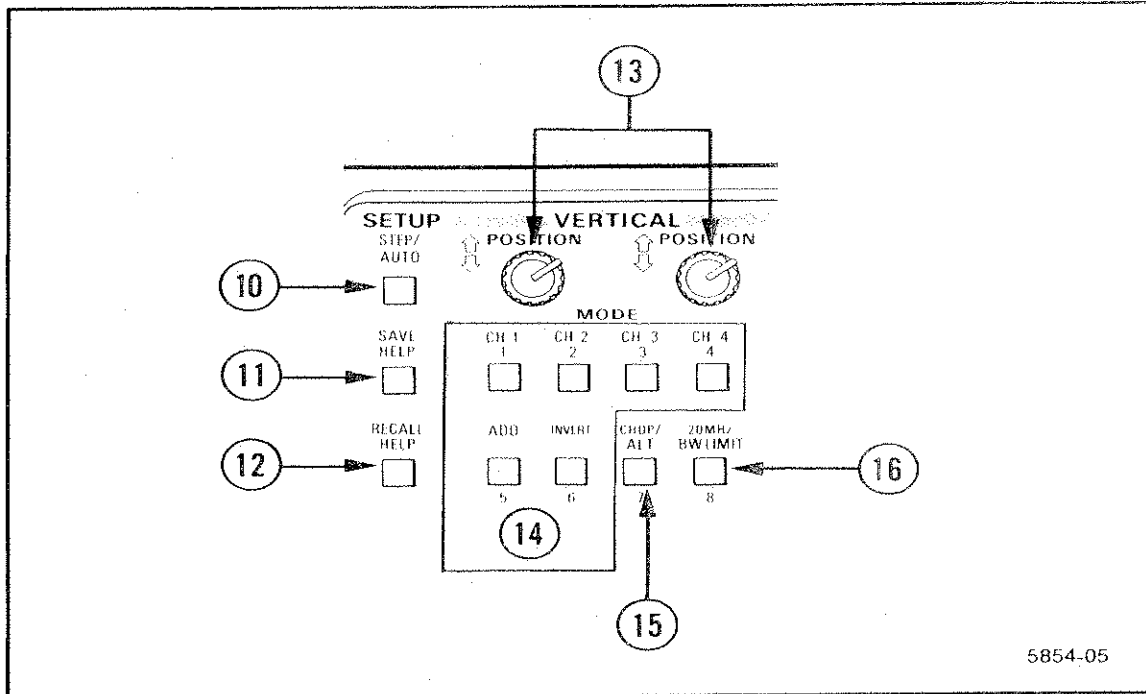

Figure 5-2. SETUP and MODE buttons, and CH 1 and CH 2 POSITION controls.
Refer to Figure 5-2 for the location of items 10 through 16.